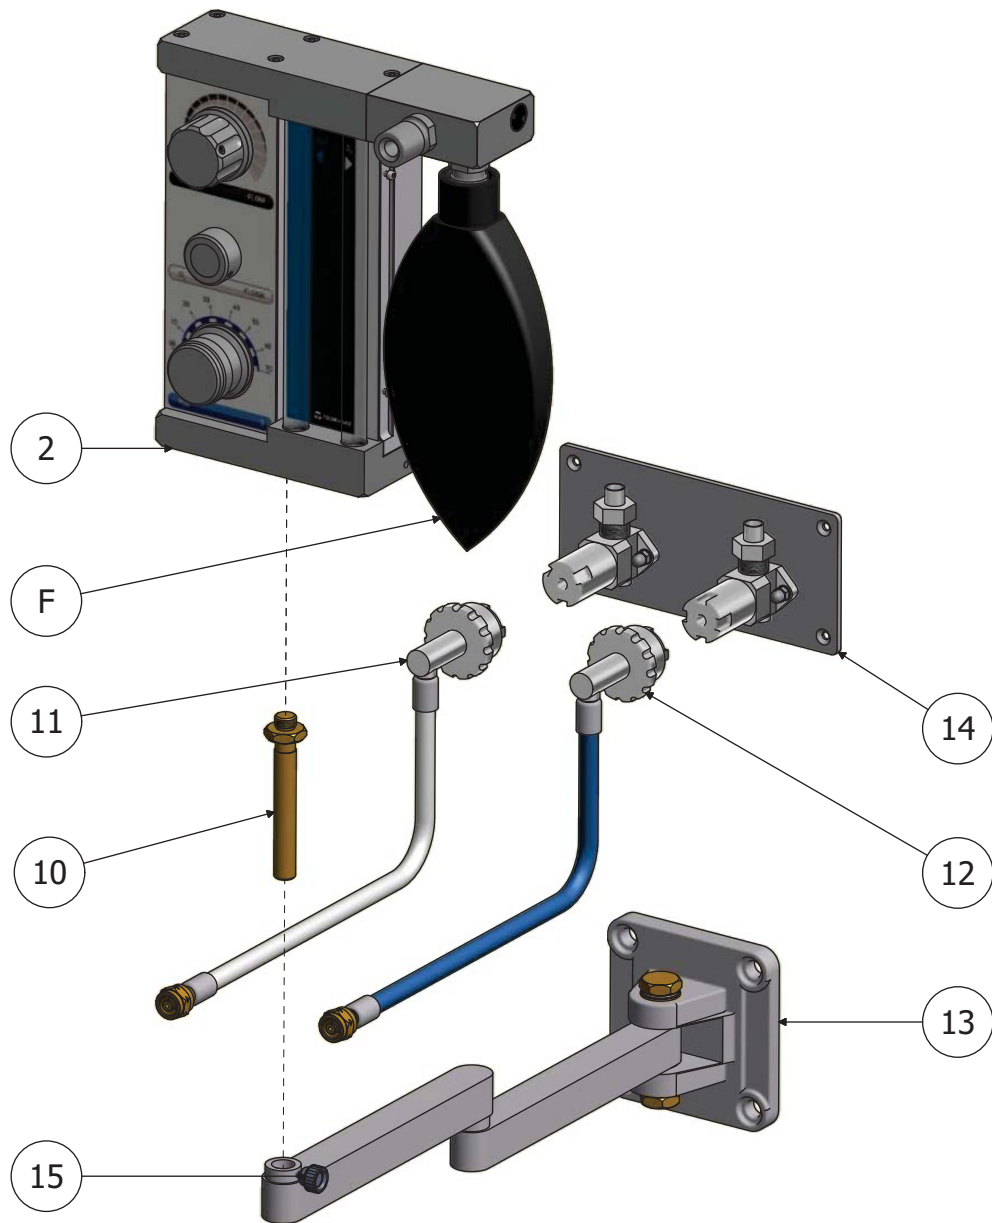

Figure 4
6.2 Installation de master flux mural (art. 1501/AS et 1601AS)**Figura 7****(Figure 4)**